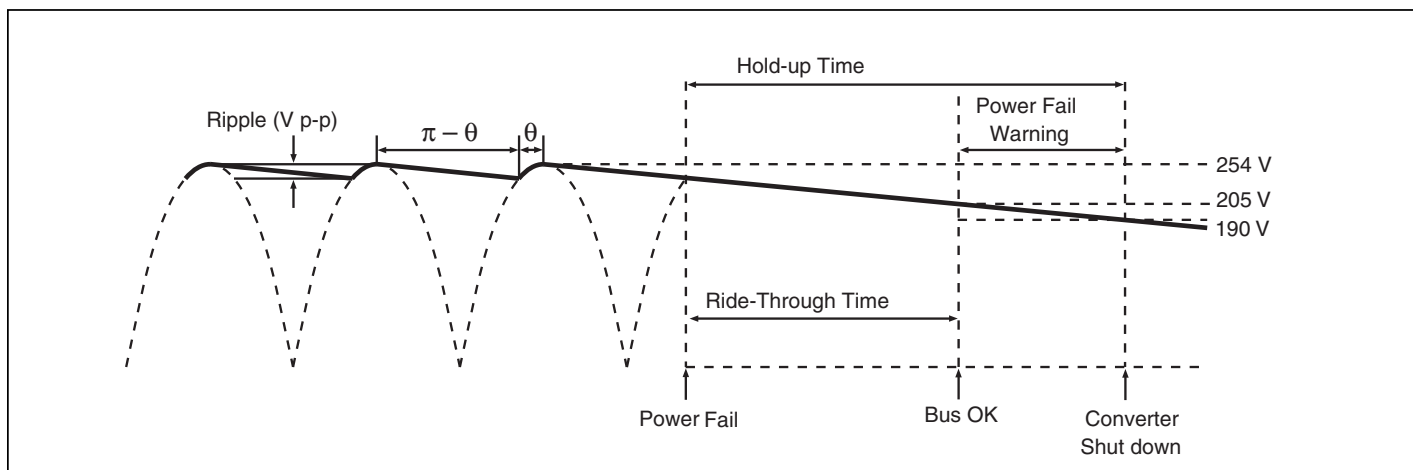

Figure 15 — Hold-up time
Hold-up capacitor values should be determined according to output bus voltage ripple, power fail hold-up time, and ride-through time (see Figure 15). Many applications require the power supply to maintain output regulation during a momentary power failure of specified duration, i.e., the converters must hold-up or ride through such an event while maintaining undisturbed output voltage regulation. Similarly, many of these same systems require notification of an impending power failure in order to allow time to perform an orderly shutdown.
The power fail warning time (Δ) is defined as the interval between BOK and converter shutdown (EN) as illustrated in *Figure 15*. The Bus-OK and Enable thresholds are 205 V and 190 V, respectively. A simplified relationship between power fail warning time, operating power, and bus capacitance is obtained by inserting these constants in Equation (3):
Equation 3 is again used to determine the required capacitance. In this case, V_1 and V_2 are the instantaneous values of bus voltage at the peaks and valleys (see *Figure 15*) of the ripple, respectively. The capacitors must hold up the bus voltage for the time interval (Δ) between peaks of the rectified line as given by: